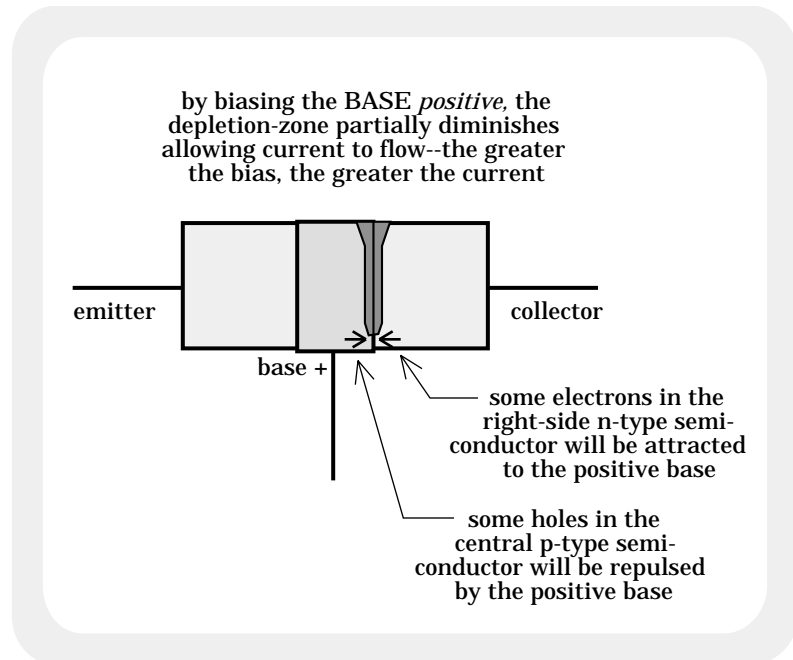

FIGURE 21.18b
b.) In Figure 21.18b (next page), the base has been made positive. Holes near and to the right of the base-connection in the p-type semi-conductor will